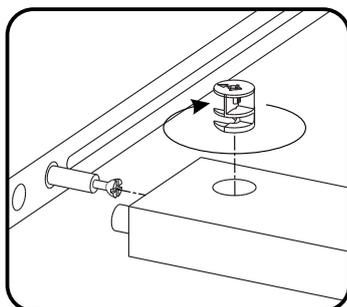

Figure 2
Attach Back Rail (C) to Post (K) with Cam Lock. (See Figure 2)